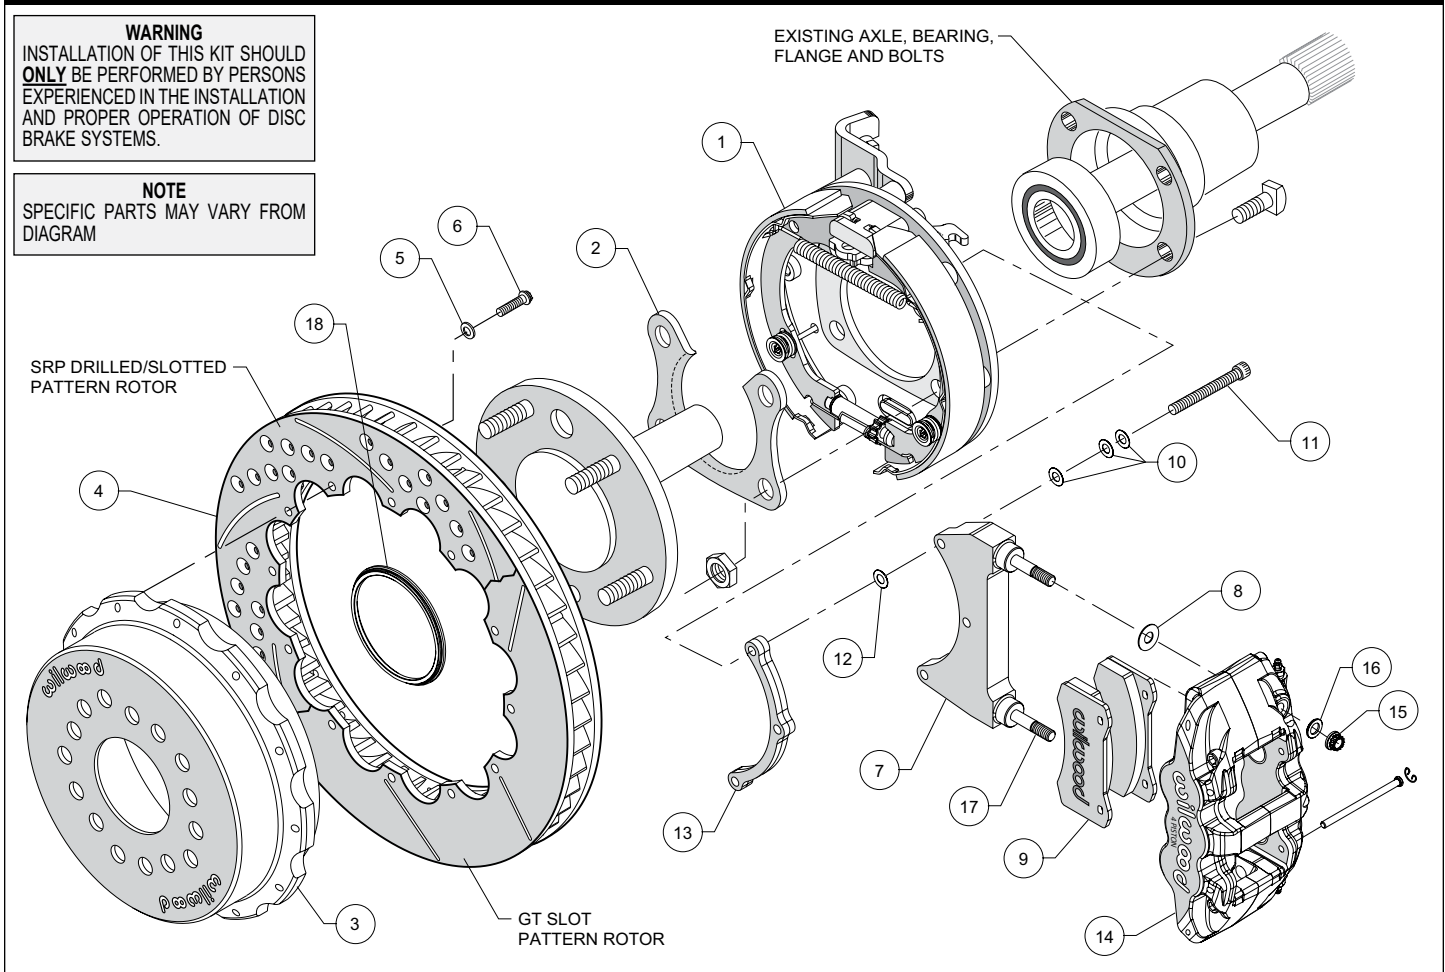

Figure 1. Typical Installation Configuration
- Orient the bracket assembly (1) as shown in Figure 1, and slide it onto the axle flange. Ensure that the bracket assembly backing plate fits flush against the housing flange. Insert the axle shaft into the axle housing.
- Install the bearing retainer (2) with the opening pointing upward and the lip facing inward (toward the bearing), as shown in Figures 1 and 4. Secure using the Original Equipment Manufacturer
(OEM) bolts and nuts, Figure 1. Apply red *Loctite*® 271 to the OEM bolt threads and torque to OEM specifications
- NOTE:** Please reference the caution statement at the beginning of the assembly instructions. The caliper mounting bracket assembly (7) should be installed first with clean, dry threads on the mounting bolts (11). Install the bracket from the rear side of the bracket kit assembly (1) by sliding bolt (11) through three flat washers (10), bracket (7), shim washer (12) and finally through the spacer (13), see Figure 1. **NOTE:** End of bolt should not exceed inside face of insert. The bracket must tighten squarely against the back side of the bracket kit assembly (1). Inspect for interference from casting irregularities, machining ridges, burrs, etc. Use one thin shim (12) between the bracket (7) and spacer (13) during initial trial fitting.
- Lubricate caliper mounting studs and nuts with lightweight oil. Install one shim (8) over each pre-installed stud (17) on the radial mount bracket (7). Slide the caliper (14) in place over the studs and rotor, then install the washer (16) and lock nut (15) to hold the caliper in place. The caliper bleed screws should be pointing up. Snug the lock nuts (15) and check that the rotor (4) is centered in the caliper (14). Add or subtract .015" shims (12) as necessary between the caliper mounting bracket (7) and the spacer (13) to center the caliper (14).
- Remove the two pad retaining pins from the caliper (14) by carefully popping out the pin retaining clips and sliding out the pins. Insert the brake pads (9) into the caliper from the bottom, Figure 1. With the friction material facing the rotor, secure the brake pads in place with the pad retaining pins and clips. Reinstall the caliper onto the caliper mounting bracket and temporarily tighten the lock nuts. Check that the top of the brake pad is flush with the outside diameter of the rotor. If not, adjust by adding or subtracting shims (8) between the caliper and the bracket.
- Adjust the parking brake shoes outward (using a drum shoe adjustment tool available at your local auto parts store) while spinning the hat (3) until a slight drag is felt against the hat/drum. Remove the lug nuts that were holding the hat/rotor in place. Install the wheel and lug nuts. Check to see that the wheel rotates freely without interference.
- Once all clearances have been checked, remove the wheel, caliper, hat/rotor from the bracket kit assembly (1). Secure the